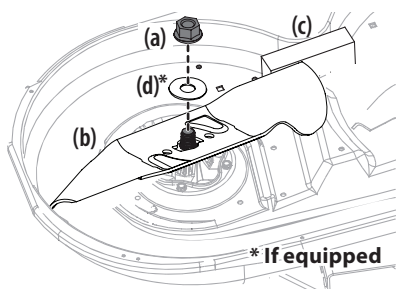

Figure 1
2. Use a 15/16" wrench to hold the hex nut on top of the spindle assembly when loosening the hex nut (a) and washer (d)* securing the blade (b). A block of wood (c) may be placed between the deck housing and the cutting edge of the blade (b) to help in breaking loose the hex nut (a) and washer (d)* securing the blade. See Figure 1.